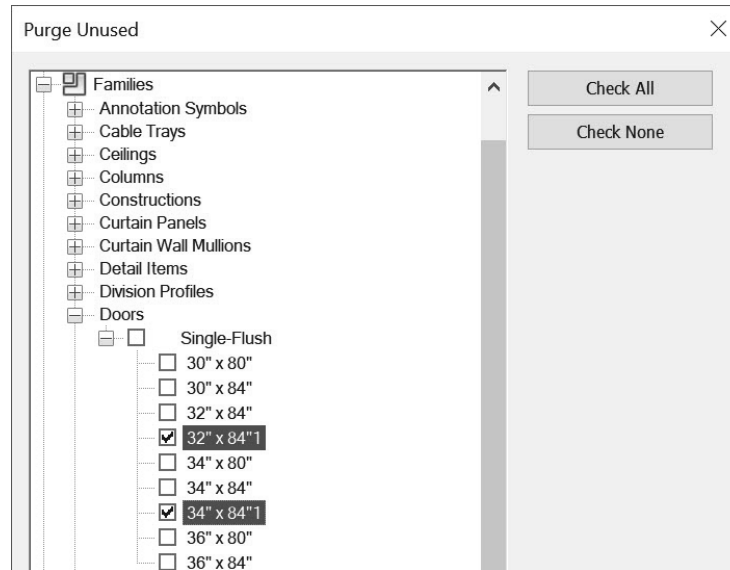

Figure 1–33
2. In the *Purged Unused* dialog box, click **Check None**, then expand **Doors>Single-Flush**. Select **32" x 84"1** and **34" x 84"1**, as shown in Figure 1–33.